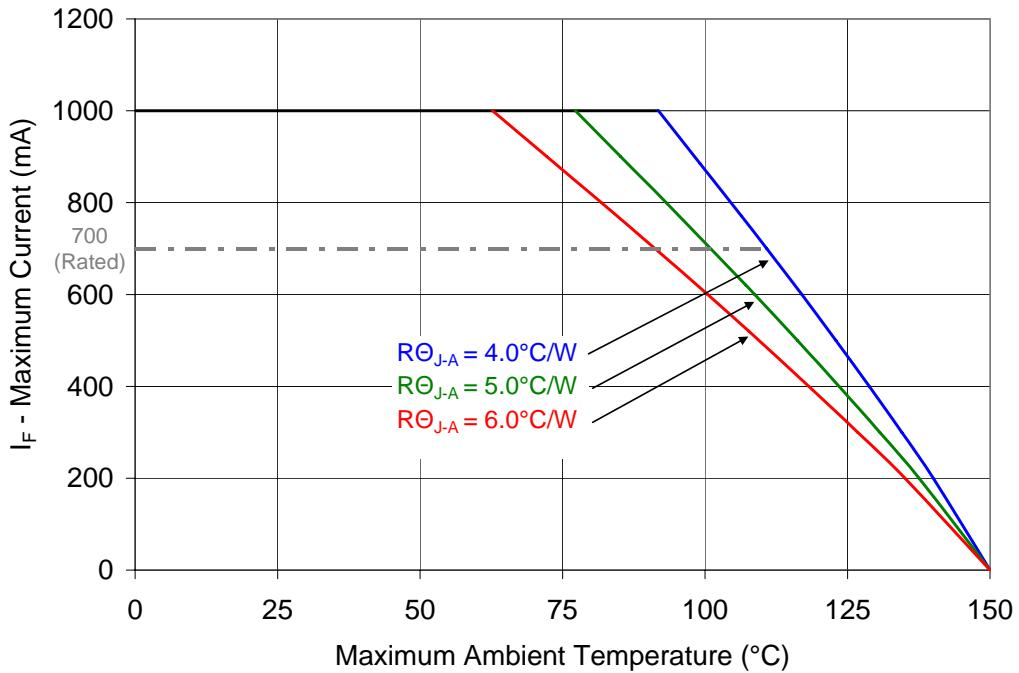

Figure 10: Maximum forward current vs. ambient temperature based on T_{J(MAX)} = 150°C.
1. Maximum DC forward current (per die) is determined by the overall thermal resistance and ambient temperature. Follow the curves in Figure 10 for current derating.
Notes for Figure 10: